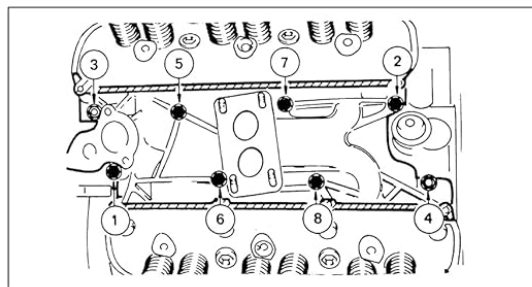

Fig. 1.29 Tightening sequence for inlet manifold bolts (Sec 93)
**11** Insert the inlet manifold securing bolts and tighten them in the sequence shown in Fig. 1.29. Tighten them to the specified torque in four stages, refer to Specifications (carburettor engine models).